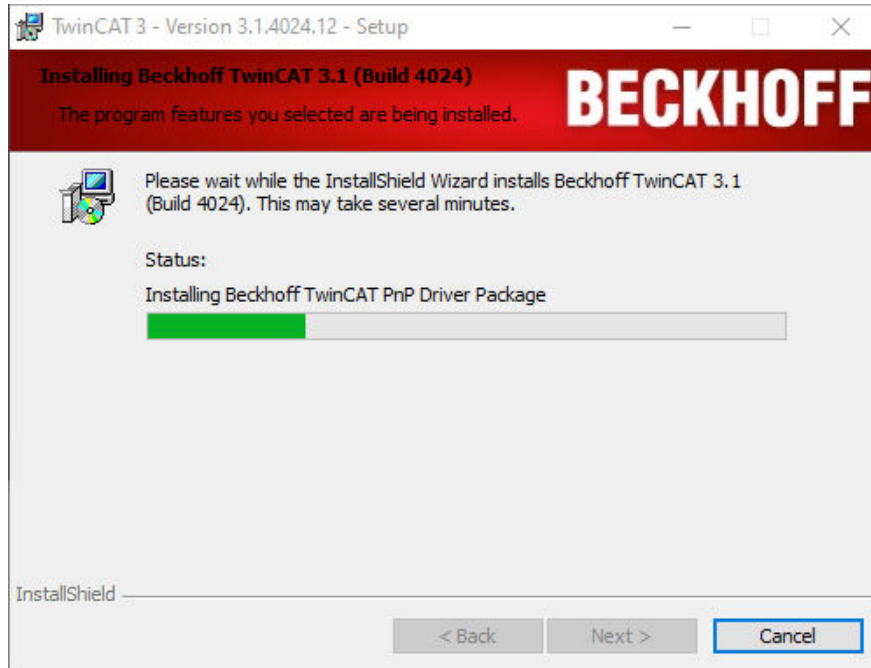

Figure 7: Installation - Communication driver package
- The installer should automatically install the software and all necessary Beckhoff communication drivers for the HEAT VIEW controller, and you should see the installation status progress on a window like that shown in Figure 7 below.